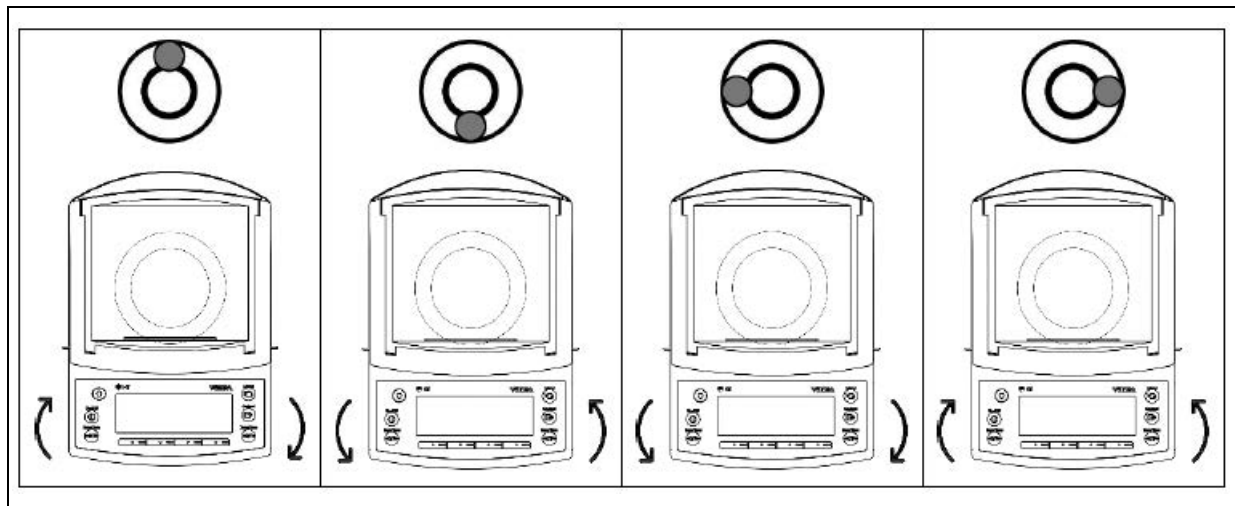

Figure 2-3. Level the Balance
2. Turn feet/adjusters until the bubble level is centered in the center circle. Figure 2-3 indicates directions to turn the feet/adjusters to move the bubble in the center.